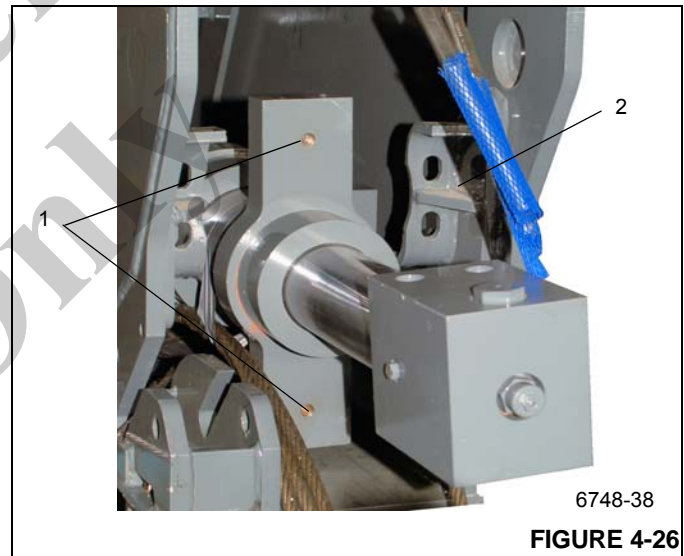

FIGURE 4-26
5. Turn cylinder rod inner mounting lugs (Figure 4-26, 1) so they are vertical to clear mounting bracket (Figure 4-26, 2) in the outer mid.